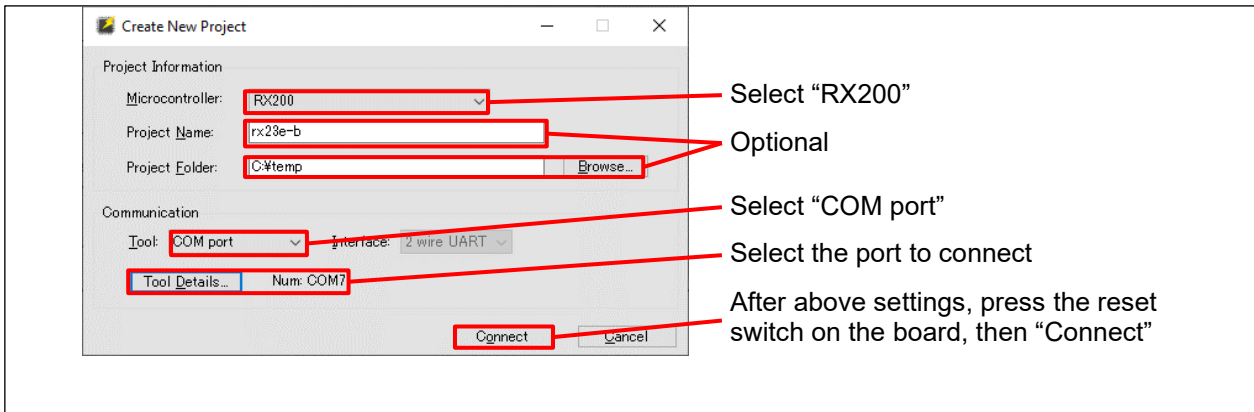

Figure 3-4 Renesas Flash Programmer “Create a New Project”
3. Activate Renesas Flash Programmer, configure settings from menu “File” > “Create a new project” referring to Figure 3-4, press the reset switch on the RSSKRX23E-B board, then press “Connect”.